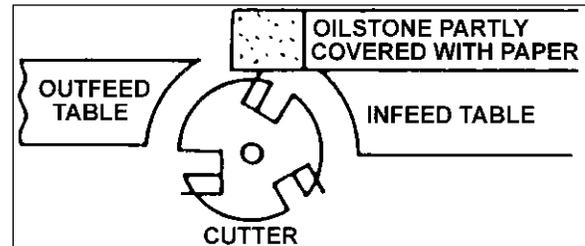

Figure 30
3. To protect the infeed table from scratches, partially cover the sharpening stone with paper (Figure 30).